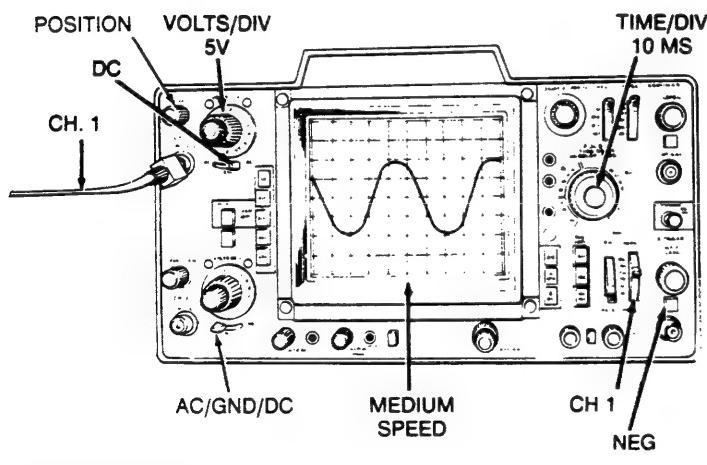

Figure 3-5A
- Set the Oscilloscope controls as shown in Figure 3-5A.
- Establish a ground reference at the center of the scope screen by setting AC/GND/DC to GND, adjusting the POS Control, and returning AC/GND/DC to DC (Figure 3-5A).
10. Connect the Channel 1 Scope Probe to TP3 (A LEFT PHOTO). See Figure 3-5A.